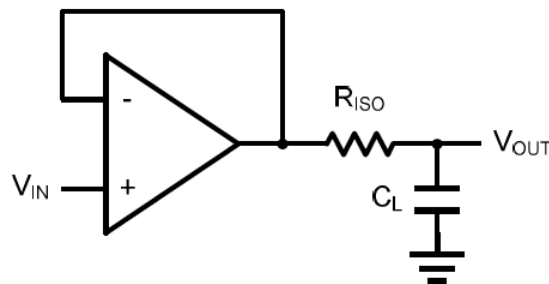
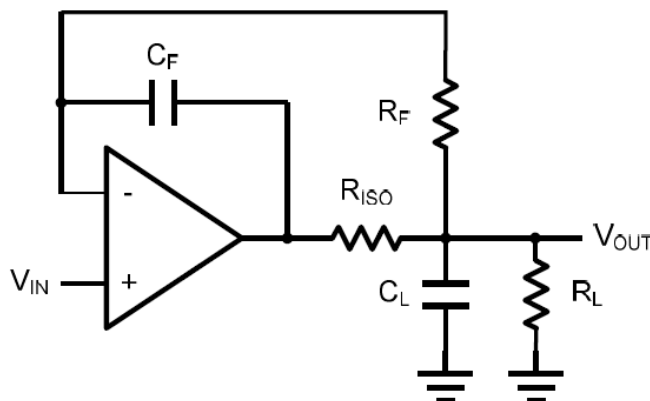

Figure 1. Indirectly Driving a Capacitive Load Using Isolation Resistor
Figure 2. Indirectly Driving a Capacitive Load with DC Accuracy
The AO1376 is optimized for bandwidth and speed, not for driving capacitive loads. Output capacitance will create a pole in the amplifier's feedback path, leading to excessive peaking and potential oscillation. If dealing with load capacitance is a requirement of the application, the two strategies to consider are (1) using a small resistor in series with the amplifier's output and the load capacitance and (2) reducing the bandwidth of the amplifier's feedback loop by increasing the overall noise gain. Figure 1. shows a unity gain follower using the series resistor strategy. The resistor isolates the output from the capacitance and, more importantly, creates a zero in the feedback path that compensates for the pole created by the output capacitance.
The circuit in Figure 2 is an improvement to the one in Figure 1. R_F provides the DC accuracy by feed-forward the V_{IN} to R_L . C_F and R_{ISO} serve to counteract the loss of phase margin by feeding the high frequency component of the output signal back to the amplifier's inverting input, thereby preserving the phase margin in the overall feedback loop. Capacitive drive can be increased by increasing the value of C_F . This in turn will slow down the pulse response.